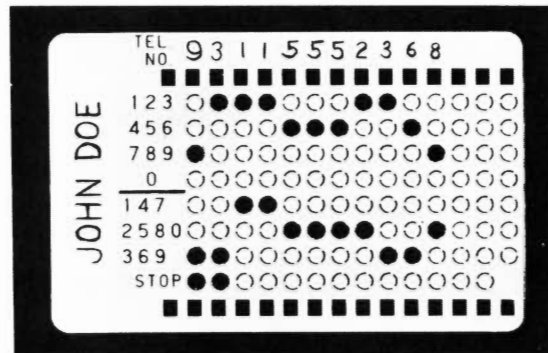

Fig. 4 - Card Coded for Access Code (9) Stop, Area Code (311) and 7-digit Telephone Number
4.13 In certain PBX systems it may be necessary to dial an access code to obtain central office dial tone. To prepare card for dialing an access code (Fig. 4), do the following: